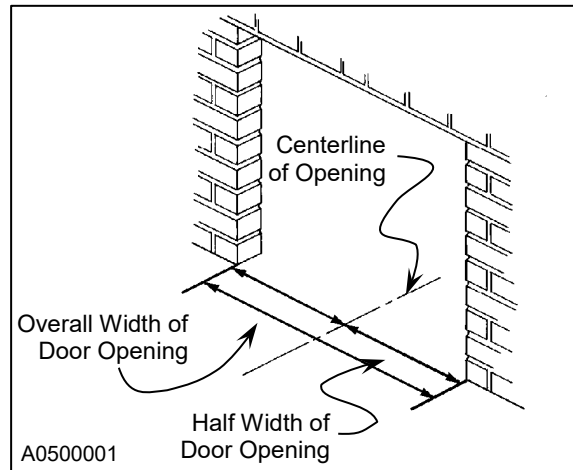

Figure 8
2. Divide the measurement in half to locate the centerline. Then mark the centerline along the floor. (See Figure 8)